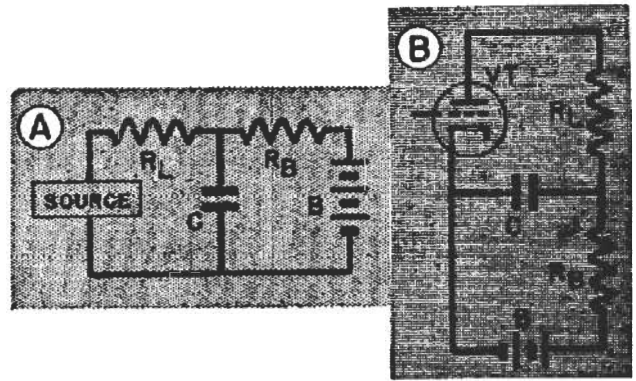

FIG. 36. This typical by-pass circuit uses the basic actions of Fig. 35.
► From what you've already learned, however, you can see that if condenser C in Fig. 36 becomes leaky, it provides a path for d.c. from battery B through R_B . As the leakage resistance becomes lower, there will be a greater drop across R_B and less voltage will be available for the tube and R_L . In other